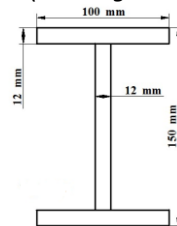

Figure 30
11. At a given position in a beam of uniform I-section is subjected to a bending moment of 100KN-m. Plot the variation of bending stress across the section (refer **Figure 30**).